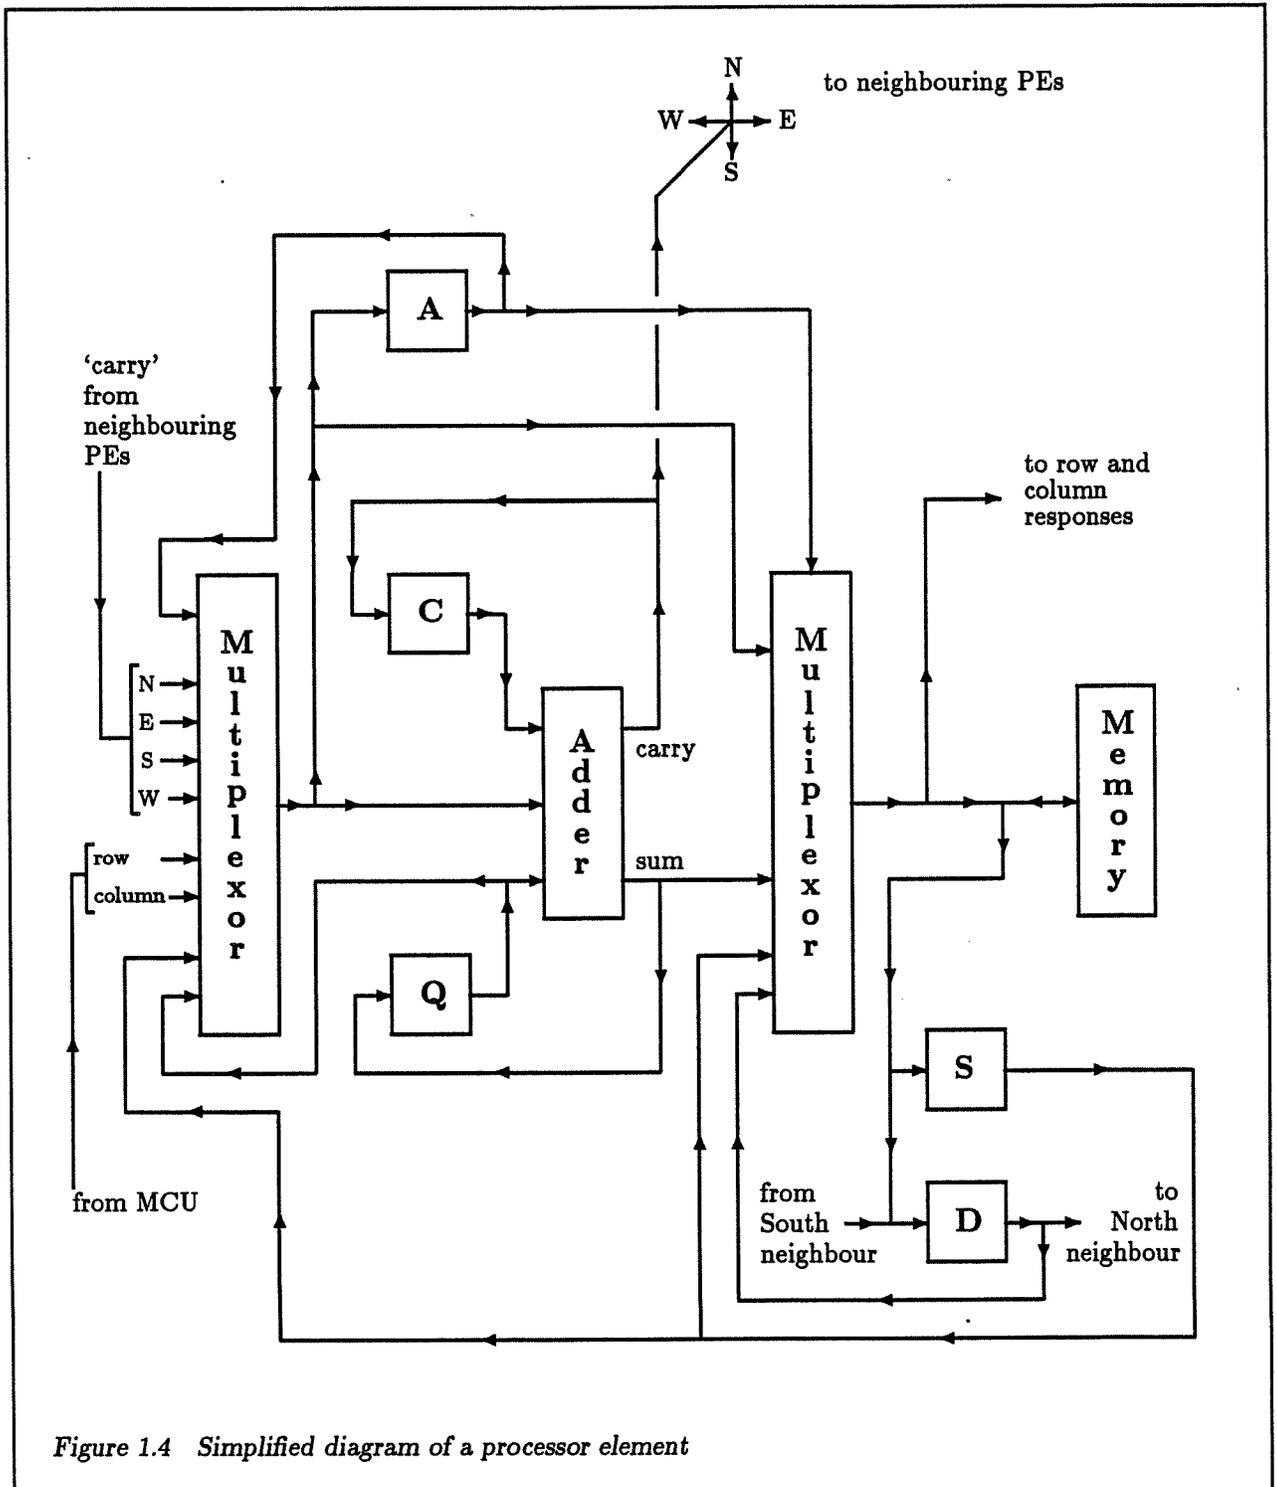

Figure 1.4 Simplified diagram of a processor element
Figure 1.4 is a simplified diagram of one processor element (PE) showing its main functional components.